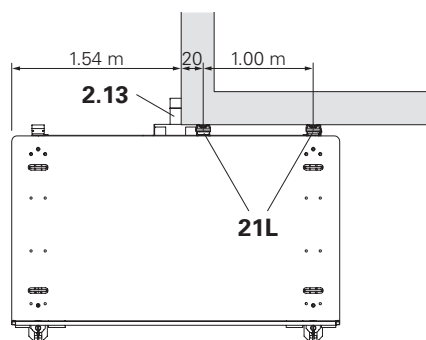

Fig. A4.04
- Mounting heads (21) in position (21L). (Fig. A4.04)